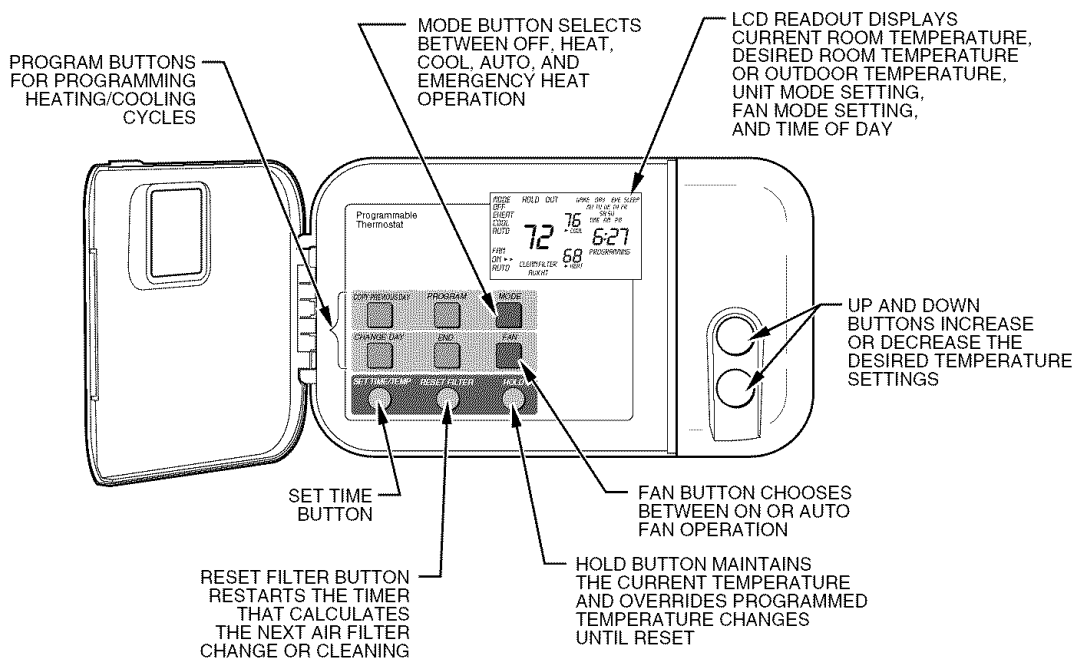

**Fig. 2—Typical Carrier Non-Programmable Thermostat**
- Your multipurpose indoor thermostat is the control center for your heat pump system. You should familiarize yourself with its proper operation. (See Fig. 2 and 3.) Attempting to control the system by other means—for instance, switching the electrical supply power ON and OFF—may cause damage to the unit.
Your thermostat may be PROGRAMMABLE or NON-PROGRAMMABLE. A NON-PROGRAMMABLE thermostat (See Fig. 2.) does not allow the temperature settings to be varied throughout the day or week without physically changing the settings. A PROGRAMMABLE thermostat (See Fig. 3.) allows various daily temperature changes to be preset. During the winter, for example, you may wish to “set back” the temperature of your home at night, then have the temperature return to normal prior to waking up. The home’s temperature can then be lowered again during the day when no one is at home, but again be at peak comfort level when your family returns home. During the summer, the opposite changes might be programmed. When properly used, the programming can result in energy savings on your home’s heating and cooling.